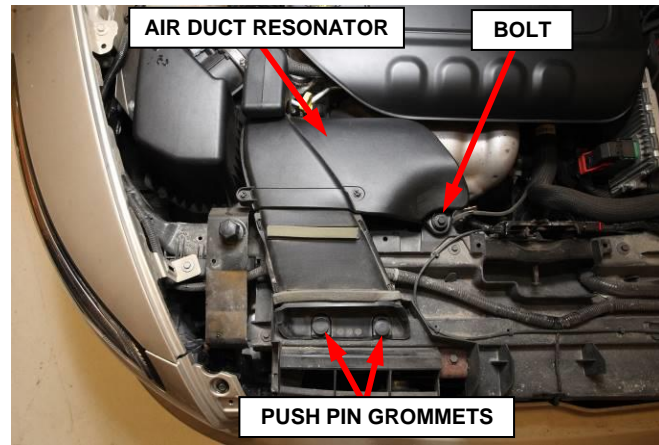

Figure 6 – Air Duct Resonator
12. Remove one bolt and release air duct resonator assembly from the two push pin grommets, then remove the air duct resonator assembly from the vehicle (Figure 6).
38. **(KL) Jeep Cherokee Only:** Install the air duct resonator assembly to the two push pin grommets on the vehicle (Figure 6).